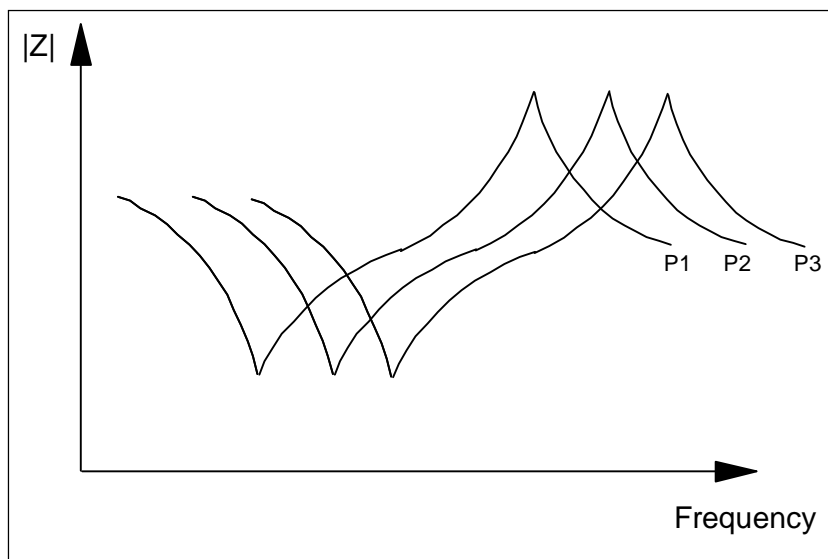

Figure 1. Drive level characteristics evaluation based on frequency sweep
- Frequency sweep of evaluation of characteristics requires the resonant frequency and impedance to be obtained by frequency sweep on each drive level, as illustrated in Figure 1. This results in longer overall measurement time, and hence reduced throughput.